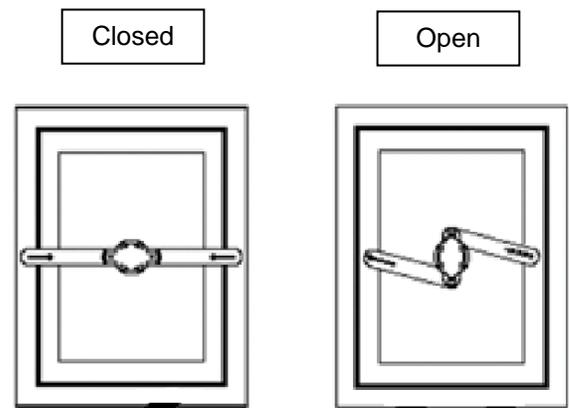

Figure 83
- ♦ Verify the functionality of the escape hatch's release mechanism prior to installation and before use. Please ensure that the hatch's arms are retracted when open and non-retracted when closed (Figure 83).